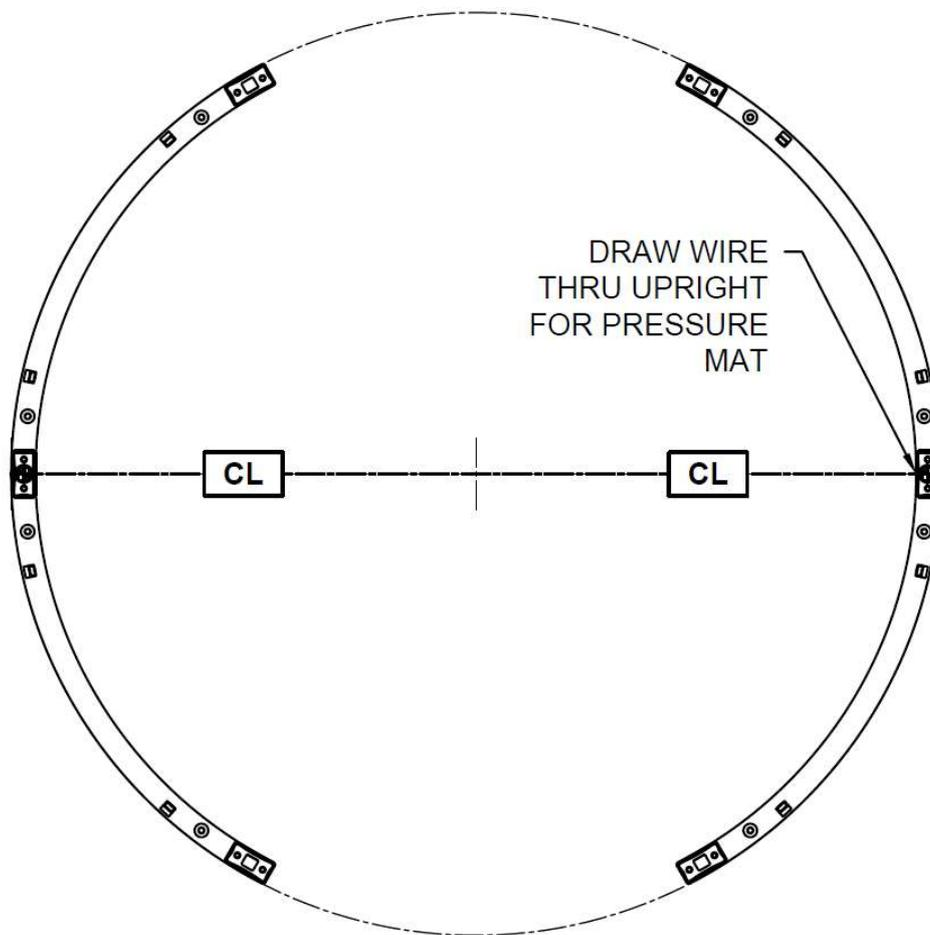

Figure 8: Frame placement
- 5.4. Place the two side halves over the marked area as shown in Figure 8. Ensure to pull the power & control cables from the conduit through the uprights to lead into the top channel. Also place the bearing assembly.
- 5.5. Pull draw wire for the pressure mat through the upright as shown in *Figure 8*.